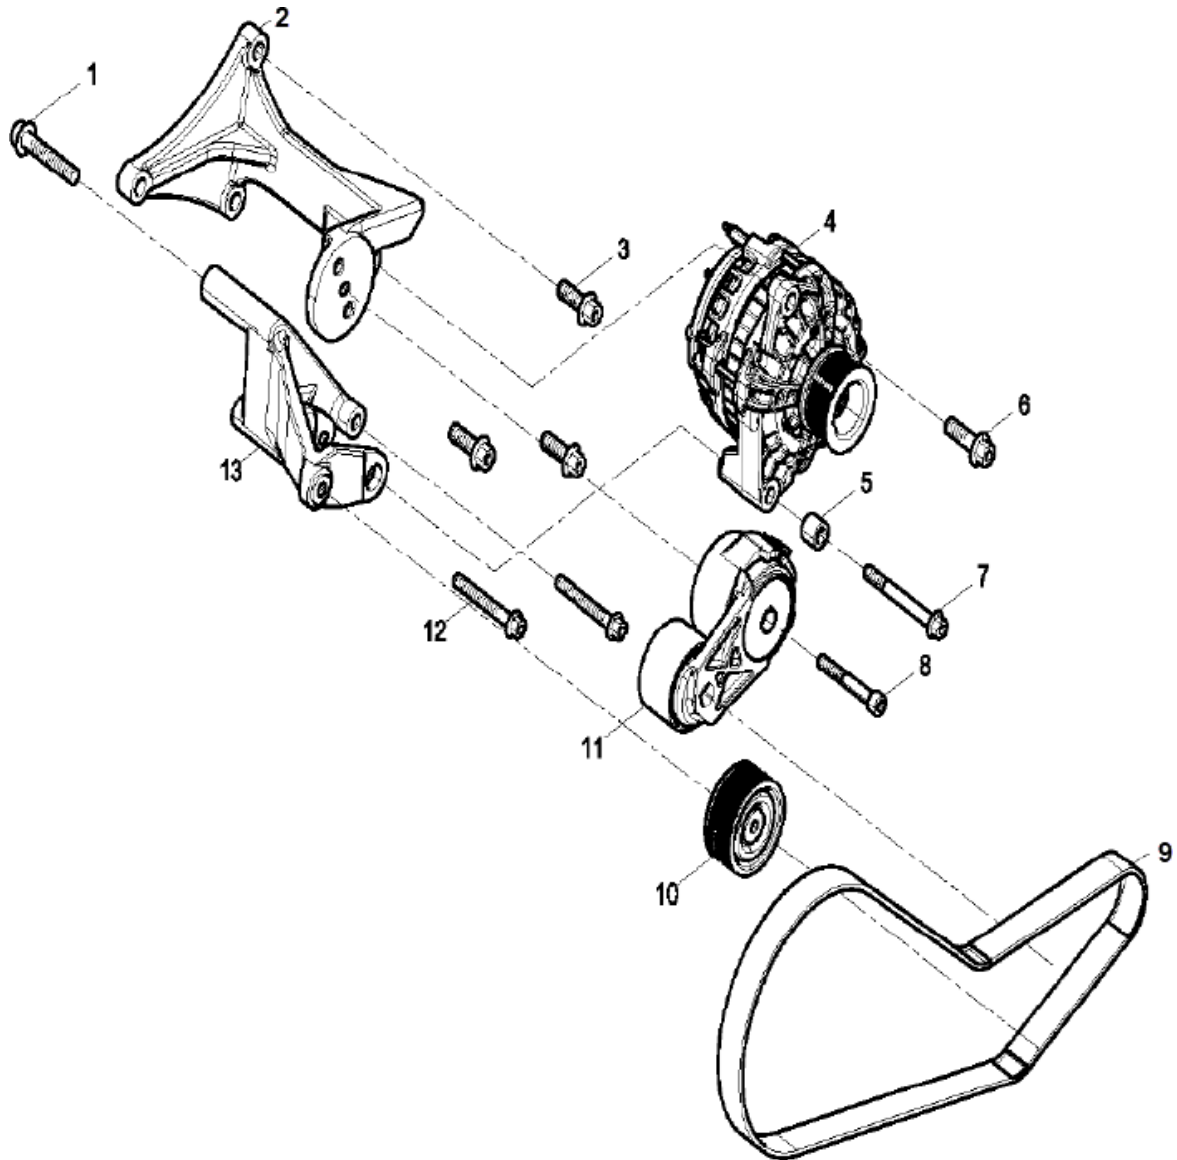

Figure 17. Alternator Pulley Assembly
2. Remove the two bolts (Figure 17, Items 6 & 7) from the alternator, remove the sleeve (Figure 17, Item 5) from the alternator.
3. Remove the alternator (Figure 17, Item 4).
1. Place the alternator (Figure 17, Item 4) onto the left-hand automatic belt tensioner bracket (Figure 17, Item 2).
2. Insert the Sleeve (Figure 17, Item 5).
3. Insert and tighten both bolts (Figure 17, Item 6 & 7.)